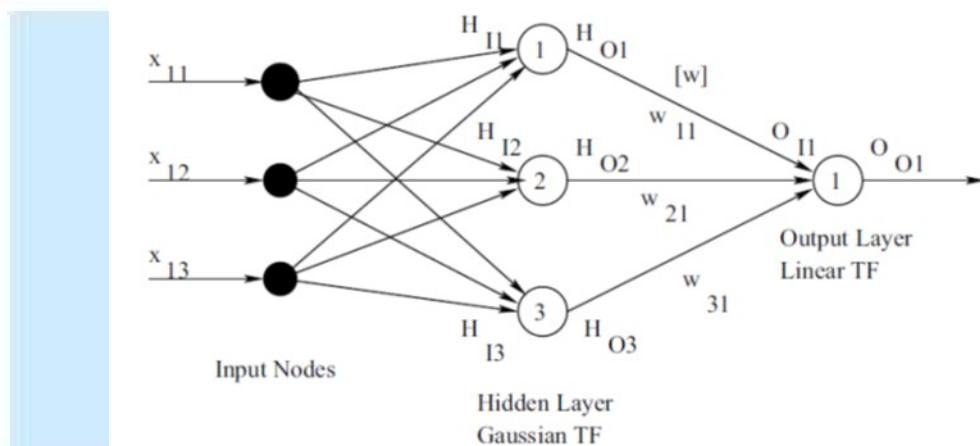

Fig. 1 A Radial Basis Function Neural network
- 12 A Radial Basis Function Network (RBFN) is to be used to model input-output relationships of a manufacturing process having three inputs and one output. Fig. 1 shows the RBFN with one hidden layer containing three